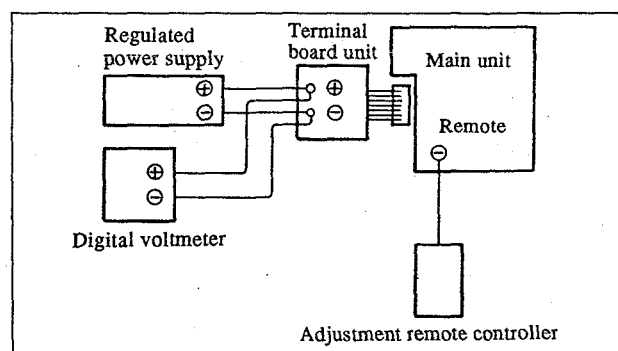

Fig. 6-4
- 1) Connect the regulated power supply and the digital voltmeter as shown in Fig. 6-4.